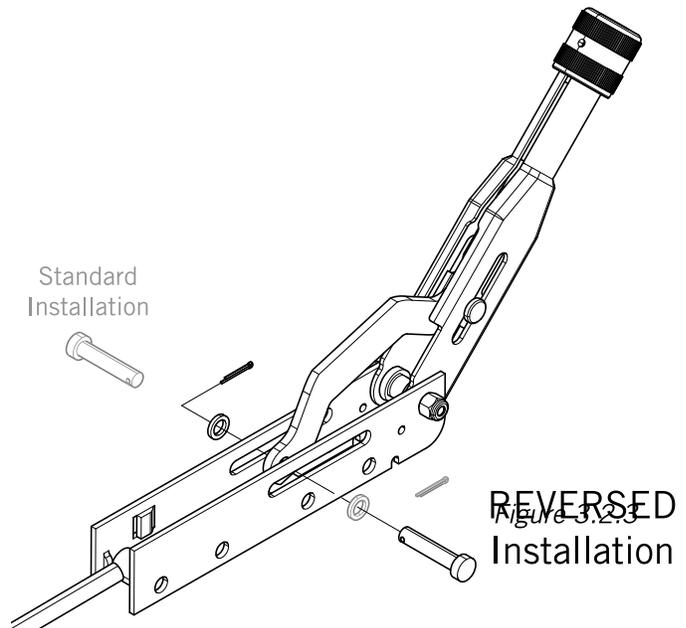

Figure 3.2.3
2. Loosen clamping collars (1) on axle shaft.
3. Slide each wheel (2) off of the shaft.
4. Remove the hardware (3) attaching the brake band (4) to the body.
5. Remove the hardware (5) attaching the brake cable bracket (6) to the body.
6. Remove the hardware (7) attaching the brake cable (8) to the handle bar.
7. The clevis and cotter pin in the brake lever need to be reversed. See Figure 3.2.3.
8. Install the brake lever (8) on the opposite side of the handle bar.